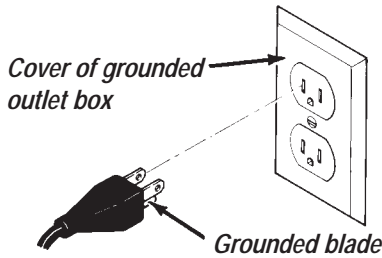

Figure A-1
- The MARK 520S plug has three prongs, as shown in Figure A-1. The receptacle should have three